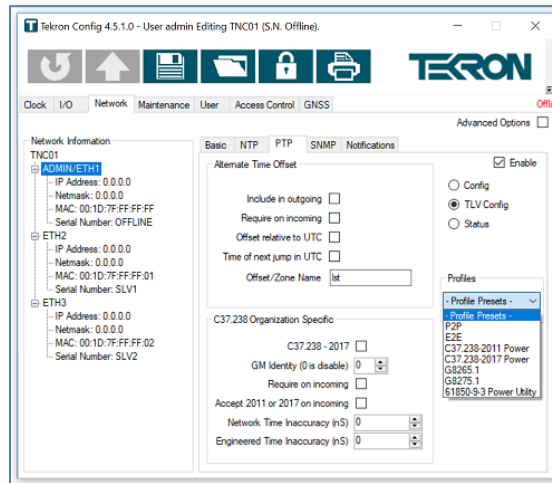

Figure 44 - "TLV Config" settings
**“TLV Config” radio button:** This section contains PTP TLV settings. Refer to Figure 44.